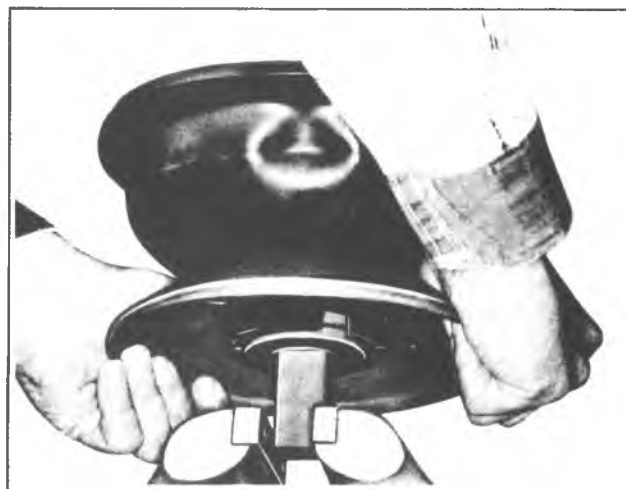

Fig. 5-7C—Positioning Power Piston on Support Plate Remover
6. Pull diaphragm edges away from support plate so hands can grip steel support plate. Position assembly on power piston Tool J-21524 so three lugs on tool fit into three notches in power piston (fig. 5-7C).